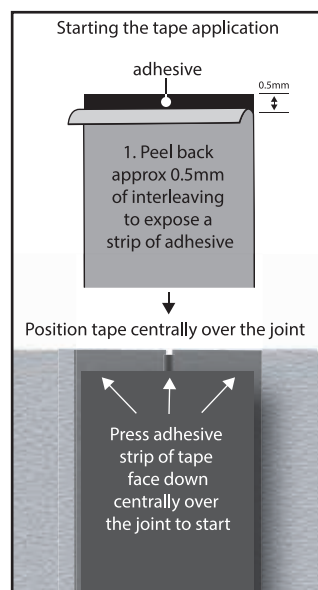

Fig 3.
3. To begin the tape application, peel back about 0.5mm of interleaving from the edge of the adhesive side of the tape to expose a strip of adhesive. Position the tape by centering it over the middle of the joint with the exposed adhesive side facing down toward the joint. Press down firmly to attach the exposed strip of tape adhesive to the precast concrete joint. **See Fig 3.** Continue to press the tape down, removing the interleaving at the same time and making sure that the tape remains centred over the joint and is pulled taut to make sure no wrinkles or air pockets are created as you go.